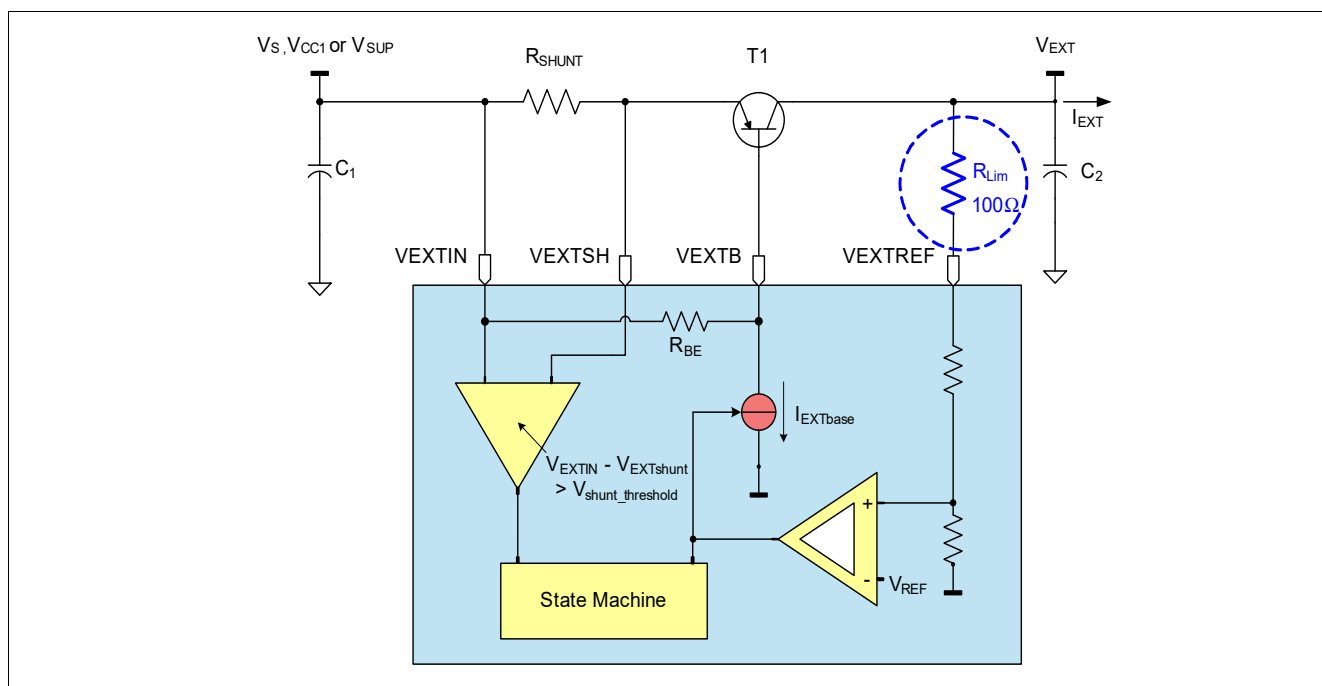

Figure 21 VEXT Hardware Setup
*Note: If the VEXT output voltage is supplying external off-board loads, the application must consider the series resonance circuit built by cable inductance and decoupling capacitor at load. Sufficient damping must be provided(e.g. series resistor with capacitor directly at device or 100 Ω Resistor between PNP collector and VEXTREF with 10 μF cap on collector (see **Figure 21**).*
Figure 21 shows the hardware set up used.